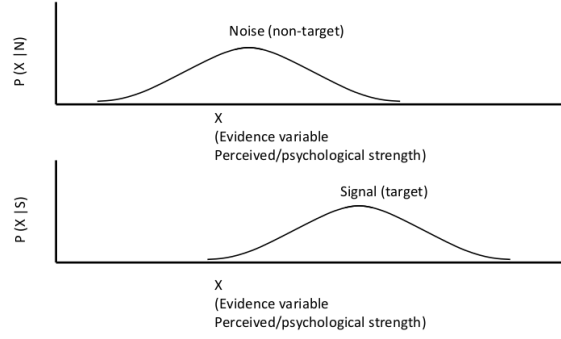

Figure 2: $P(X|noise)$ and $P(X|signal)$. Noise = No cancer and Signal = cancer
In order to test a radiologists capability to dishtinguish targets from non targets, the manager needs large amounts of patient x-rays whose diagnosis are already known. In order to measure the radiologists performance in regards to detecting cancer or not detecting cancer, the manager needs to measure their sensitivity. Sensitivity is the underlying ability to discriminate signals from noise. Figure 2 shows graphs to illustarte the difference between noise and a signal. The x axis is the actual variable measured and the why axis is show the probability of x given that the measured variable is either noise or a signal.
- With all the probabilities calculated, one can calculate the sensitivity (d') of the radiologist. The ditributions shown in Figure 2 are normal distributions. Thus to calculate d' , one needs the values of the probability constant (Z) from a table. $d' = Z(P(hit)) - Z(P(false\ alarm))$.